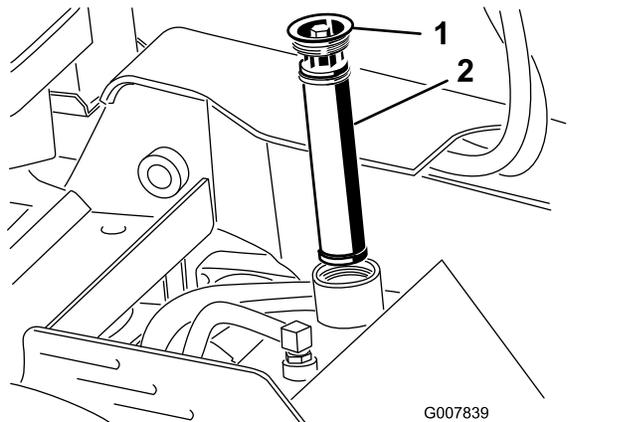

Figure 55
4. Remove and discard the old filter (Figure 55).
5. Install the replacement hydraulic filter and filler cap (Figure 55) and torque the bolt on top to 13 to 15.5 N·m (110 to 140 in-lb).